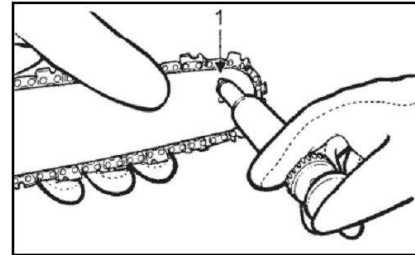

Fig.16
- 2- Properly clean the hole for lubrication (see 1 in Fig.16) on the tip of the guide bar (from both sides).